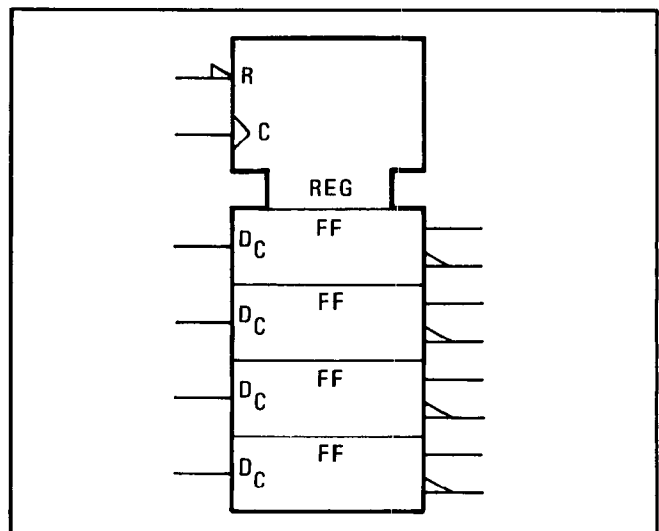

Figure 8-15. Quad D-Type Latch Example
Figures 8-15 through 8-17 show how the basic symbols can be combined in various ways to illustrate the behavior of fairly complex devices.
8-72. Quad D-Type Latch. Refer to Figure 8-15. The register control block is used to illustrate a quad d-type latch. There is a common active-low reset (R), and a common edge-triggered control input (C). Since there is only one dependency relationship, the controlling input is not numbered and the controlled function (D) is subscripted with a C.